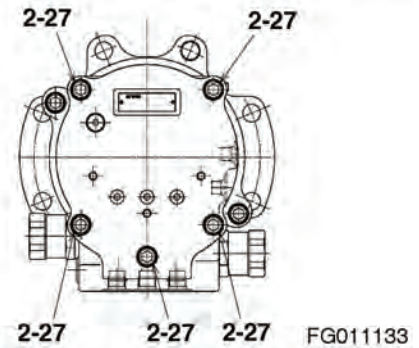

Figure 69
23. Loosely tighten socket head bolts (2-27, Figure 69), then using a torque wrench, tighten them to specified torque.
3. Apply grease to inner race of taper roller bearing (1-6, Figure 69) assembled on pinion shaft (1-2, Figure 72).